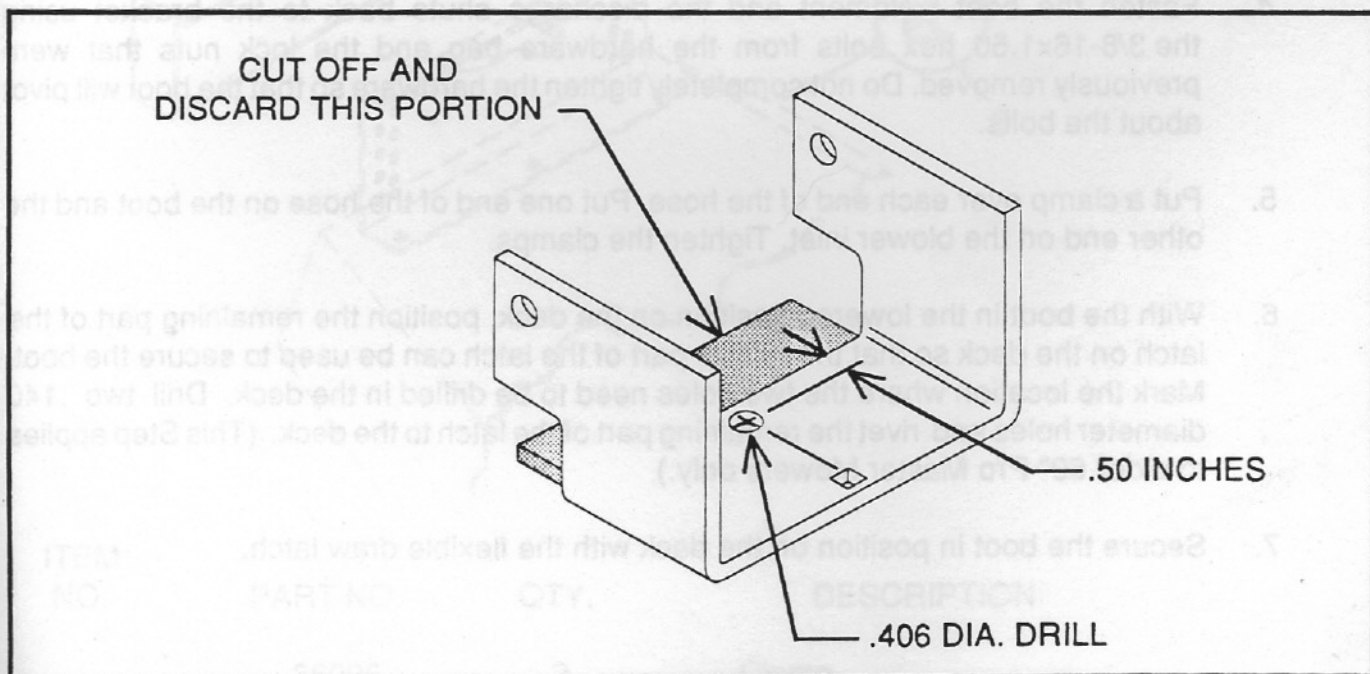

FIGURE 1
1. Remove the discharge chute bracket from the mower deck and cut off the portion of the bracket which is represented by the shaded area in Figure 1.
3. Drill one .406 diameter hole through the bracket and the deck, approximately .50 inches from the edge of the bracket as shown in Figure 1. Install a 3/8-16x1.00 hex bolt, flat washer and lock nut in the new hole.